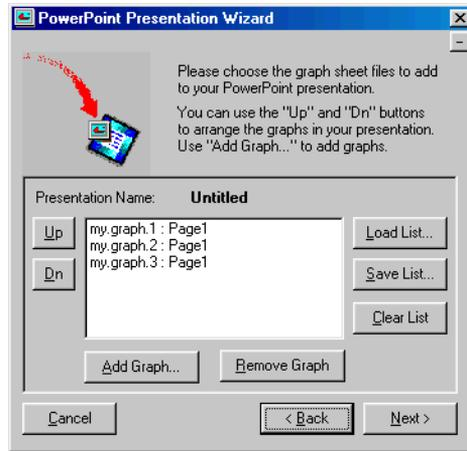

Figure 10.21: *Selecting your **Graph Sheets**.*
4. As shown in Figure 10.21, the first page of the wizard gives you several options. By default, the **Graph Sheets** currently open in your session are selected for the presentation. However, you can change the selections by doing any of the following: